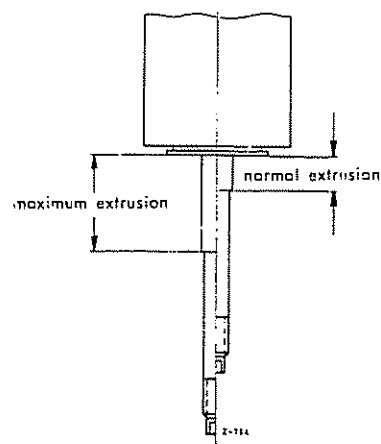

Fig. 32-1/4
4. If Bilstein shock absorbers lose oil, check the oil reserve. To do this depress the piston rod as far as the stop and measure the remaining length as far as the shoulder of the piston rod (Fig. 32-1/4). When this test is being made, the temperature of the shock absorber should be approx. $+18$ to $+20^{\circ}$ C.